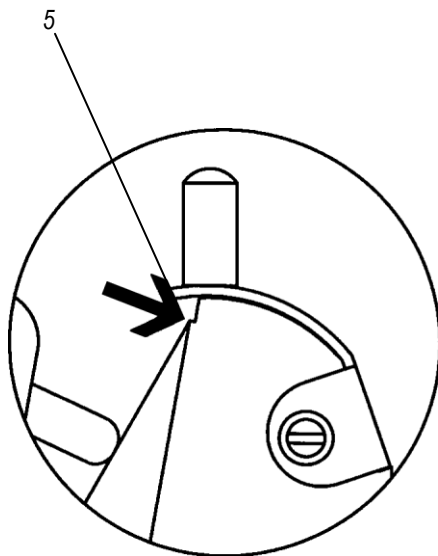

Fig. 4-6
Adjusting the knife height (Fig. 4-6)
- Turn the wheels (6) in opposite directions to the rear in order to position the knife edge parallel and level to the locating edge (Fig. 4-6) on the rear clamping jaws.
- To clamp the knife (4), tighten the two clamping screws (2) uniformly by turning them clockwise.